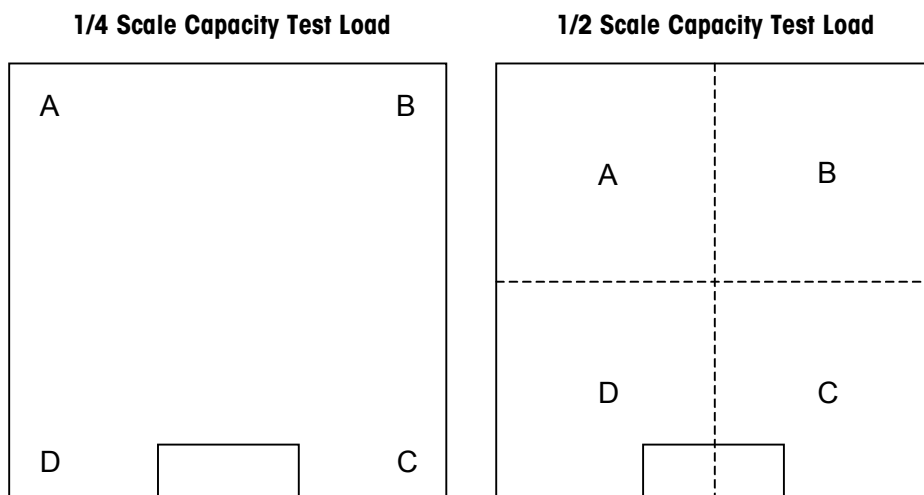

Figure 8-1: Test Weight Locations
2. Figure 8-1 shows two sets of test weight locations. If you use a test weight equal to 1/4 of the rated scale capacity, place the test weight at each corner of the scale platform. If you use a test weight equal to 1/2 of the rated scale capacity, place the test weight at the center of each quadrant of the scale platform.